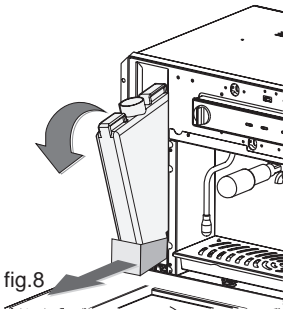

fig. 8
- Rotate the water tank towards the front as shown in (fig. 8) and remove it.